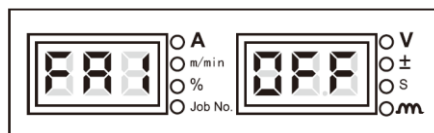

Figure 3-31 Screen for FA1 display
1. Enter the internal menu, adjust the knob on the panel of welding power source to **FA1**, the digital tubes will display as shown in Figure 3-31.